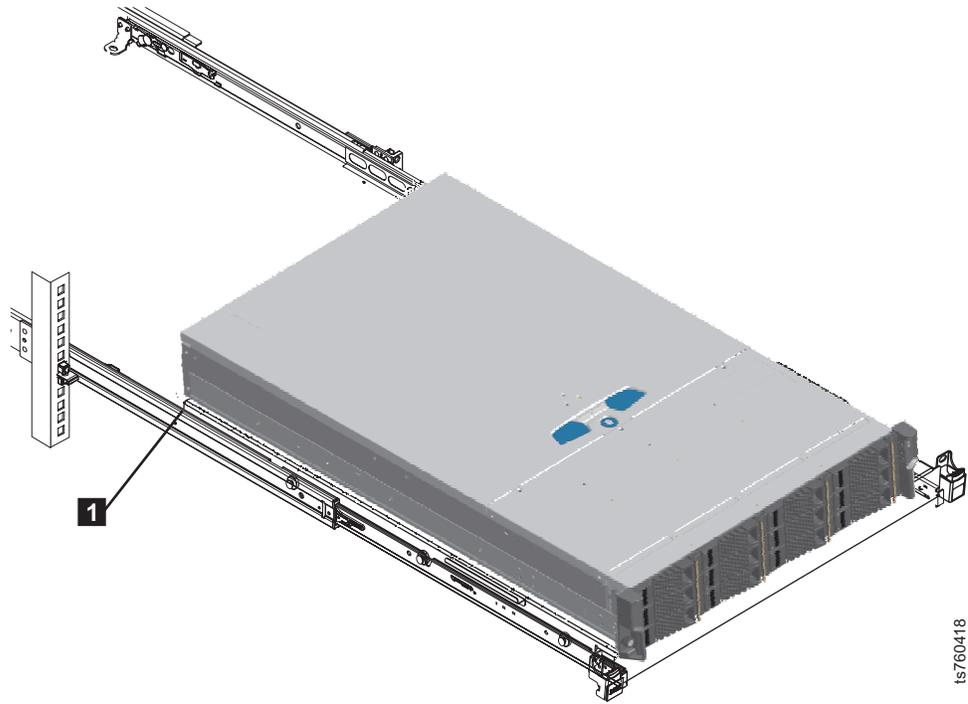

Figure 26. Extending the slide rails and support tray
6. To place the TS7610 or TS7620 server into the service position, push the front tab and pull the slide rails and support tray forward, until the rails are fully extended and click into the locked position **1**. Refer to Figure 26 on page 51